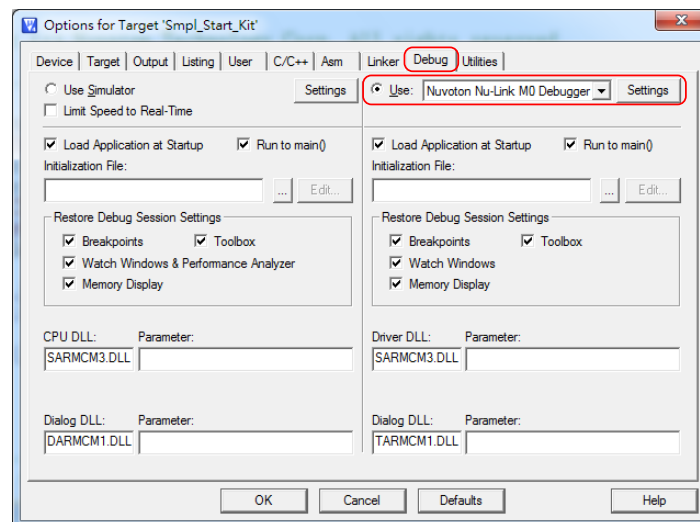

Figure 4-10 Keil RVMDK Debugger Selection
Step 4: Invoke **Project** → **Options for Target** → **Debug**, and make sure the **Use: 「Nuvoton Nu-Link M0 Debugger」** option is checked, as shown in Figure 4-10.